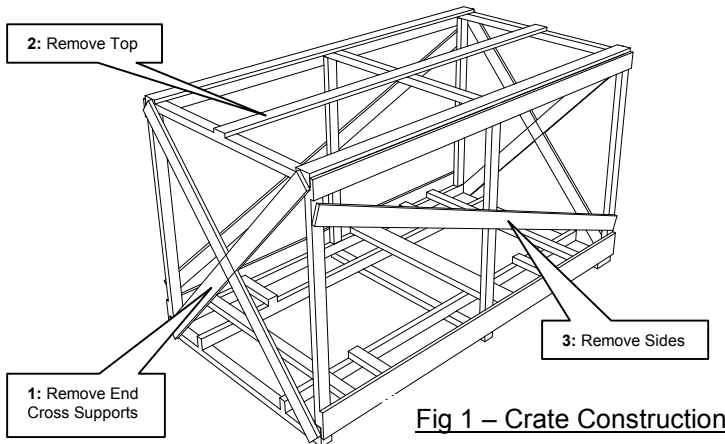

Fig 1 – Crate Construction
I. Uncrating the vehicle (Fig 1)